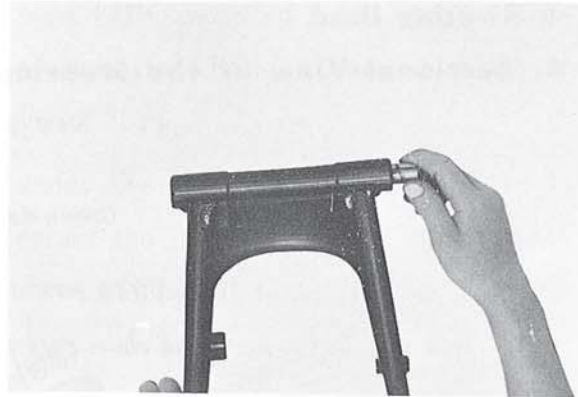

Fig. V-8-4
- 2) Insert the bushing as indicated in Fig. V-8-4, and check it for play. If the play is excessive, replace the bushing.